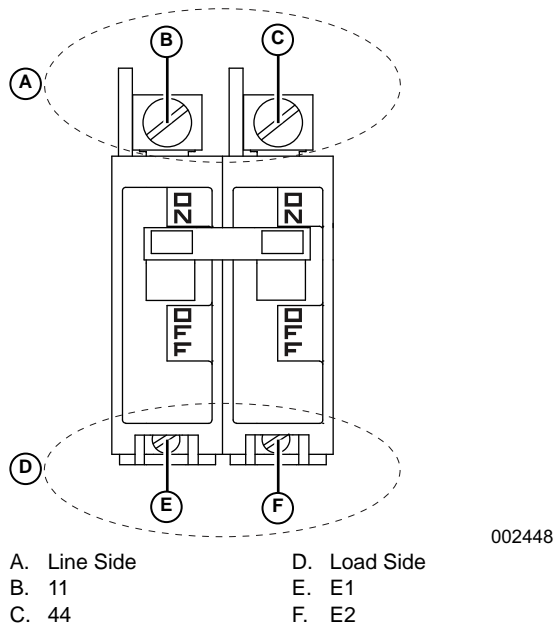

Figure 3-50. Main Line Circuit Breaker
3. See **Figure 3-50**. Connect one meter test lead to the wire 11 terminal on the breaker and the other test lead to the E1 terminal.